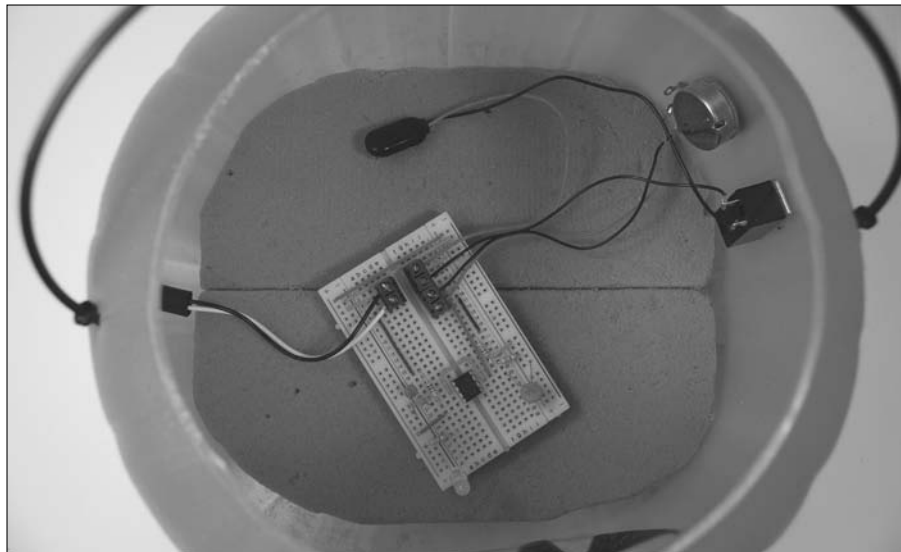

Figure 9-15:
11. Use a mini hacksaw or a utility knife to shape foam blocks so that they fit inside the bottom of the pumpkin, as shown in Figure 9-15.
Because this pumpkin probably won't move around much, we just chose to lay the breadboard on the foam, as shown in Figure 9-15.